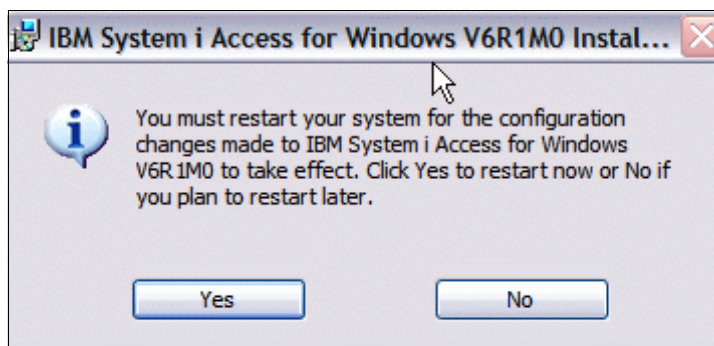

Figure 7-19 IBM System i Access for Windows Reboot
11. To finalize the IBM i Access for Windows installation a reboot is required, as indicated in Figure 7-19.